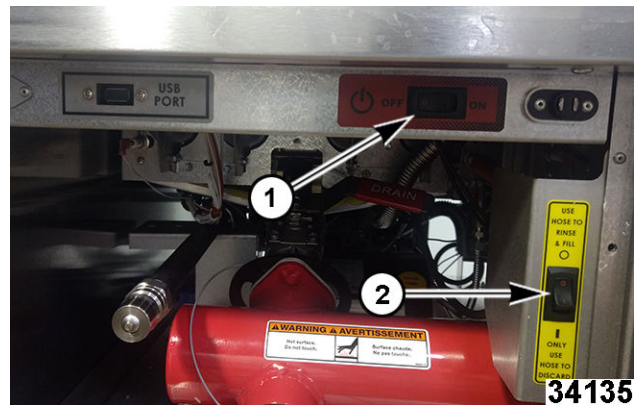

Fig. 62
2. Locate power switch (1, Fig. 62).
3. Locate discard hose switch (2, Fig. 62).